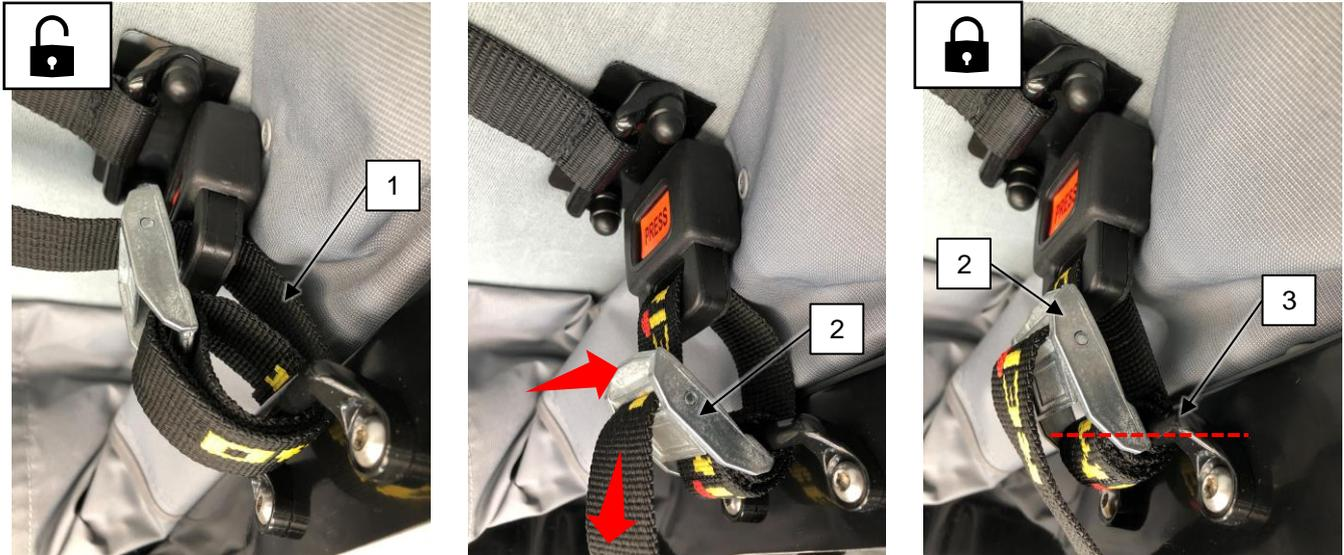

Abb. 7-1: Webbing guide for the lock
- Attach the belt (see Abb. 7-1, 1) according to Abb. 7-1 and tighten it while pressing against the buckle (2): **The buckle (2) must rest on the bracket (3)!**